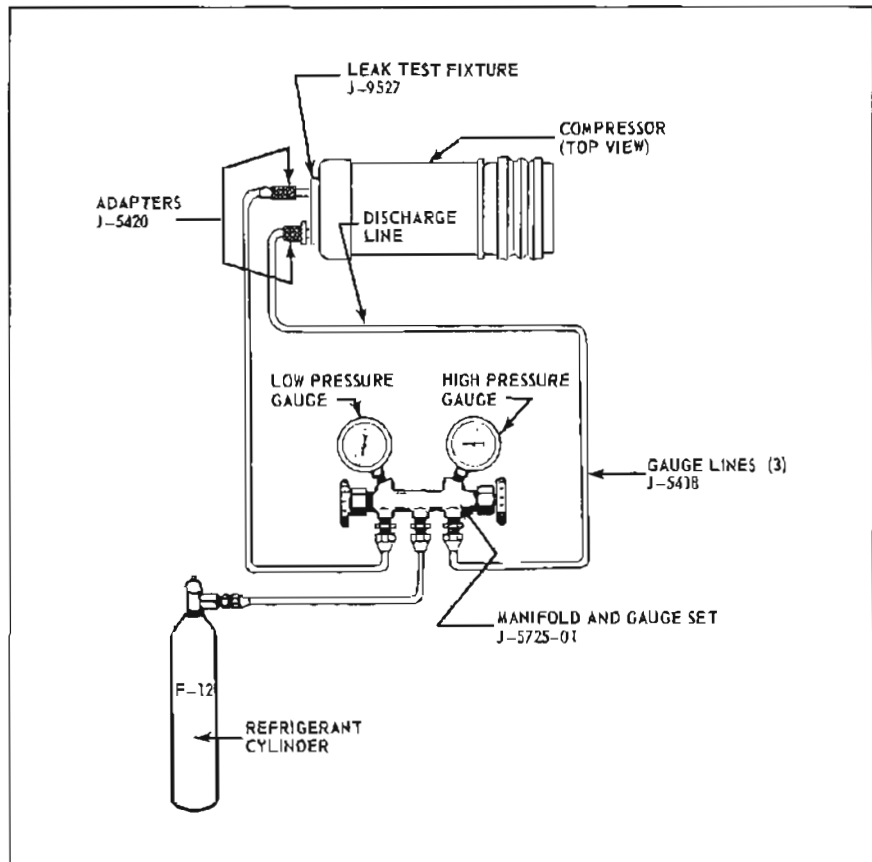

Figure 11-105—Compressor Internal Leak Test
59. After the shaft seal pressure test (ref. subpar. "i") has been performed, change the test circuit to the configuration shown in Figure 11-105.